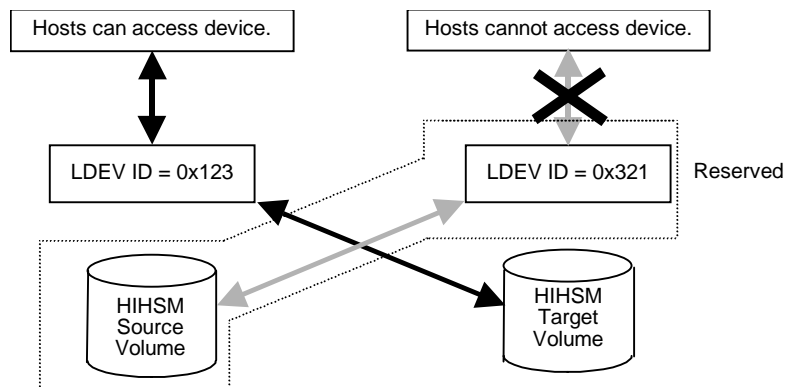

Figure 2.4 After a HIHSM Volume Migration Operation
- Transfer host access to the target volume to complete the migration (see Figure 2.4).